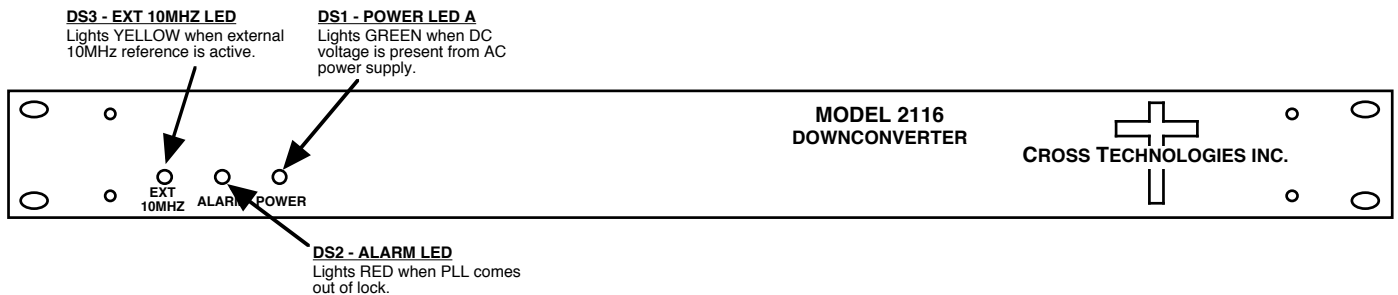

FIGURE 2.2 2116-139 Front Panel Controls and Indicators
4. Be sure DS1 (green, DC Power) is on and DS2 (red, Alarm) is off (Figure 2.2).
6. If EXT is selected or AUTO is selected and there is a 10MHz, 3 dBm signal at J2, check that DS3 (yellow, Ext 10MHZ) is on (Figure 2.2).